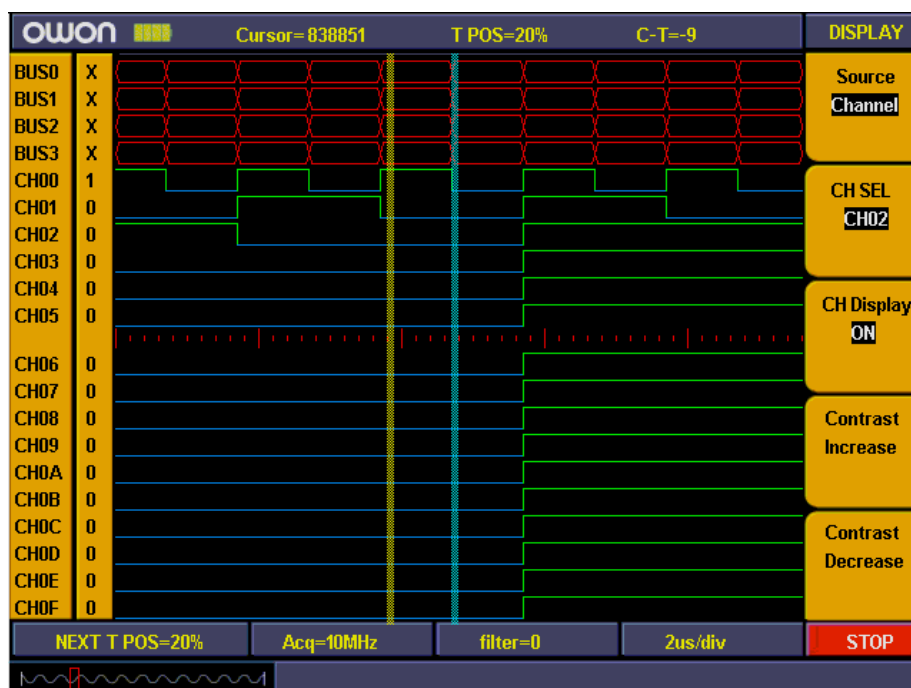

Fig.13
- 4、 Press “**F3**” and set the signal sources as “**ON**”. Repeat operation of steps 3.4 and set CH01, CH02 as “**ON**” and CH03-CH0F as “**OFF**”. Refer to Fig.13
Now display panel only show CH00、CH01、CH02 and others channel and bus are all off. Ref to Fig.13